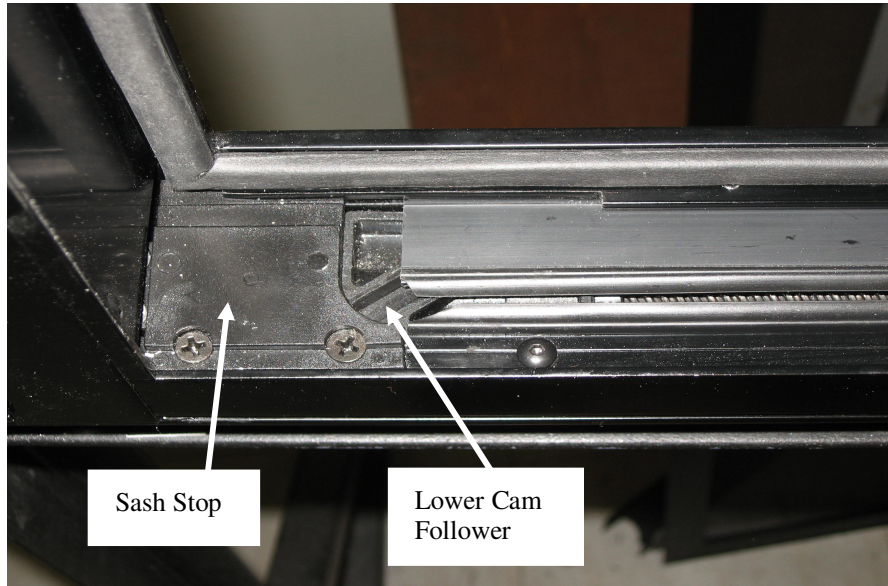

Figure 3
- 1) Align the leading edge of the slot on the lower cam block with the sash stop. Use the power toggle switch to obtain the correct alignment. (Figure 3)